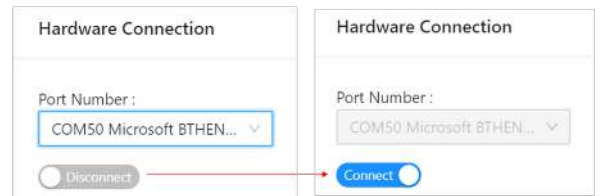
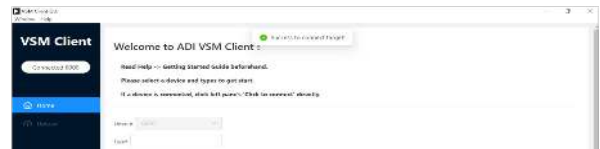

Figure 23. Toggle Connection Switch
Figure 24. Connection Successful
4. Toggle the connection switch to **Connect** (see Figure 23). When connected, a **Success to connect target!** pop-up appears at the top of the VSM Client window (see Figure 24), and